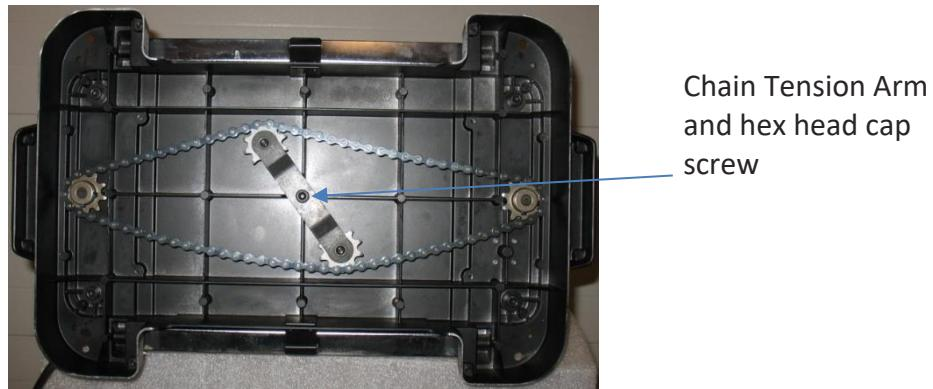

Figure 16: Chain Tension
4. To adjust tension, loosen the socket head hex cap screw in the center of chain tension arm (Fig. 16).